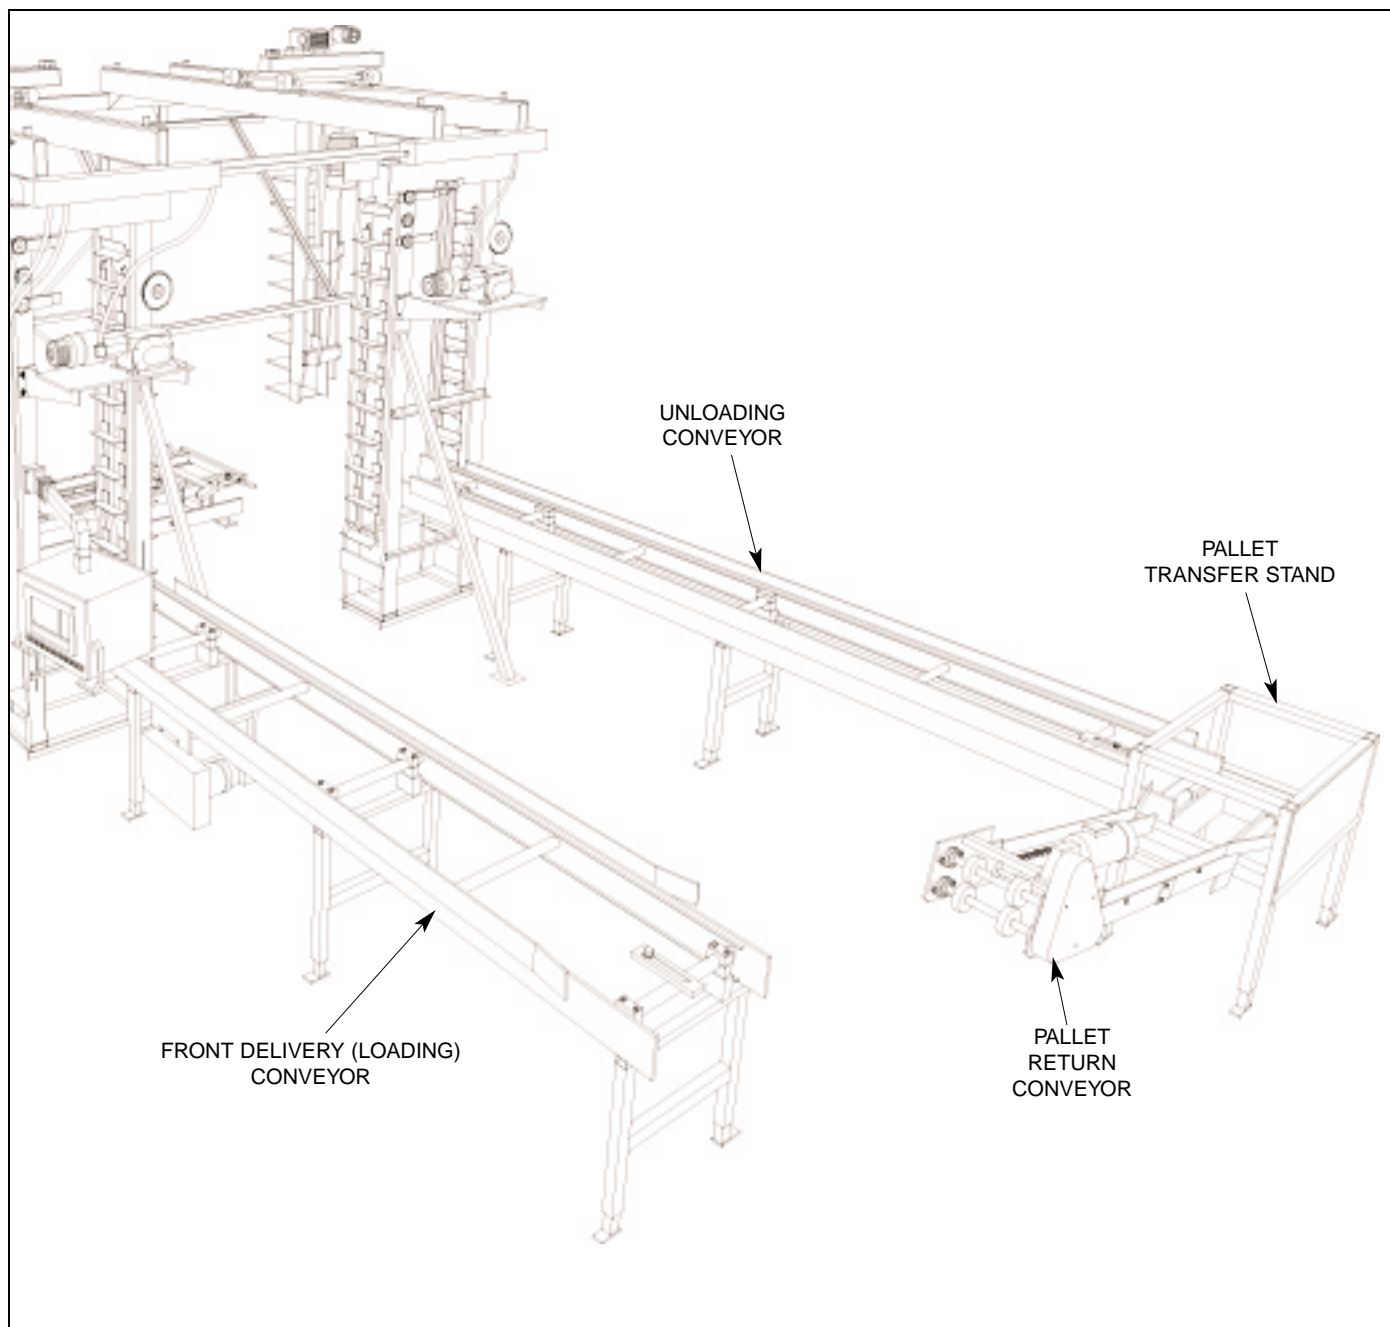
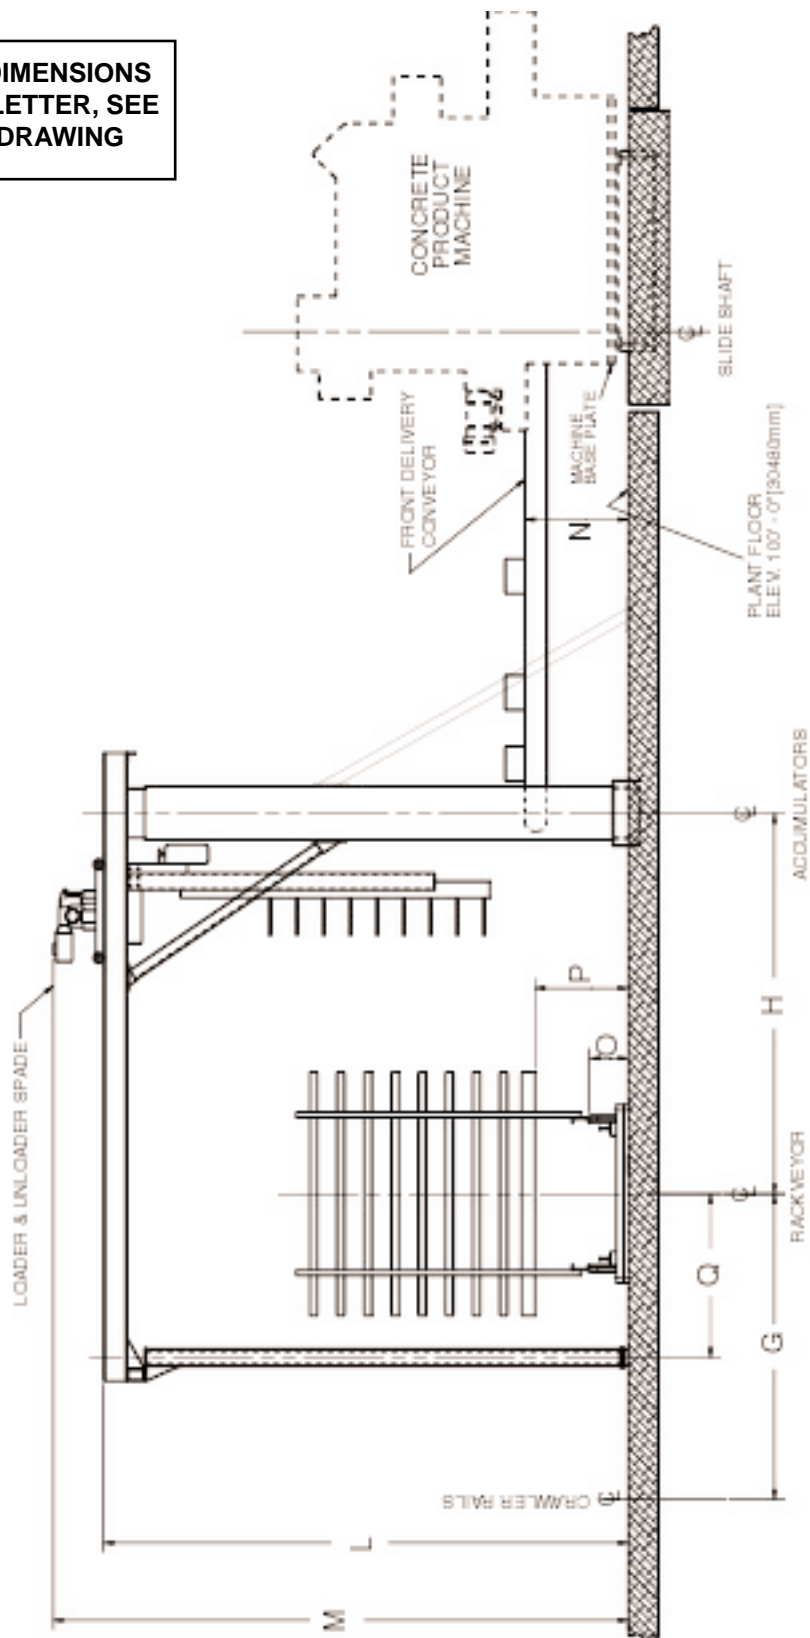

Figure 3.30 CONVEYORS ON MS-10. (Note that some drives are not shown on this illustration)
Figure 3.32 OVERALL INSTALLATION DRAWING (ELEVATION VIEW).
Note: Use figure 3.30 to locate conveyors.
3.9.1.6 Adjust height of conveyor. Refer to figure 3.32, measurement H. **Important:** Height should be taken from floor to top of chain. Use adjustment bolts to adjust conveyor height as shown in figure 3.30.
3.9.2.6 Adjust height of conveyor. Refer to figure 3.32, measurement N. **Important:** Height should be taken from floor to top of chain.